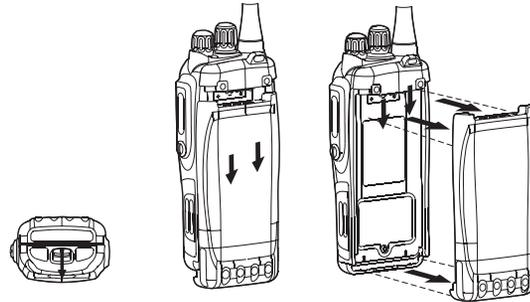

Fig.2
3. Slide down the battery for about 1 to 2 centimeters, and then remove the battery from the radio's body. See figure 2.